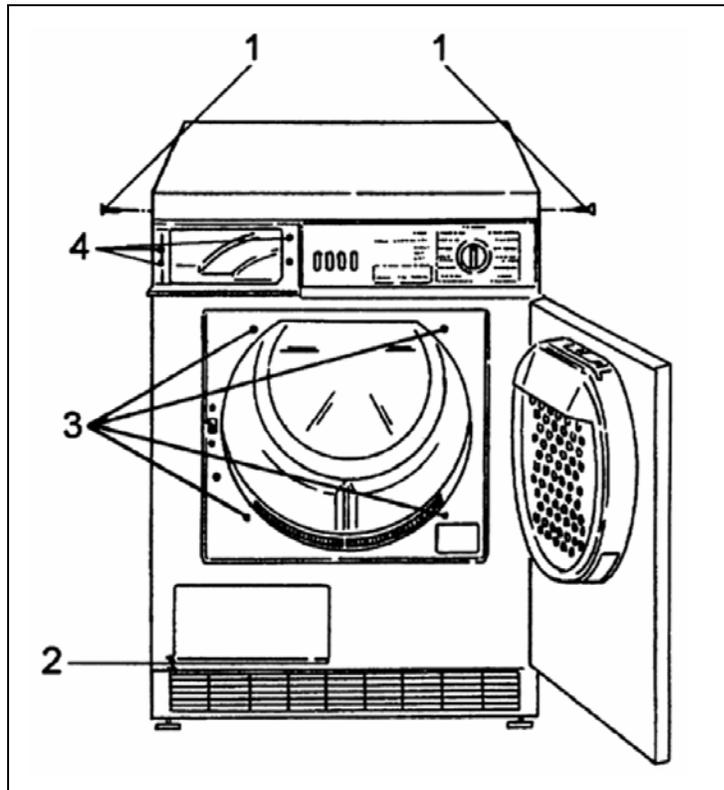

Figure 5-1: Lid Removal and Front Panel Access
1. Remove the screws from the side edges of the lid (Figure 5-1, Item 1).
1. Remove the four screws (Figure 5-1, Item 3).
2. Remove the condensed-water drawer and unscrew the three screws (Figure 5-1, Item 4).
3. Press the spring clip (Figure 5-1, Item 2) down with the lid opener and open the front panel.
2. Remove the four screws (Figure 5-1, Item 3).
3. Remove the two screws (Figure 5-1, Item 4)
4. Press the spring clip (Figure 5-1, Item 2) down with the lid opener and open the front panel.